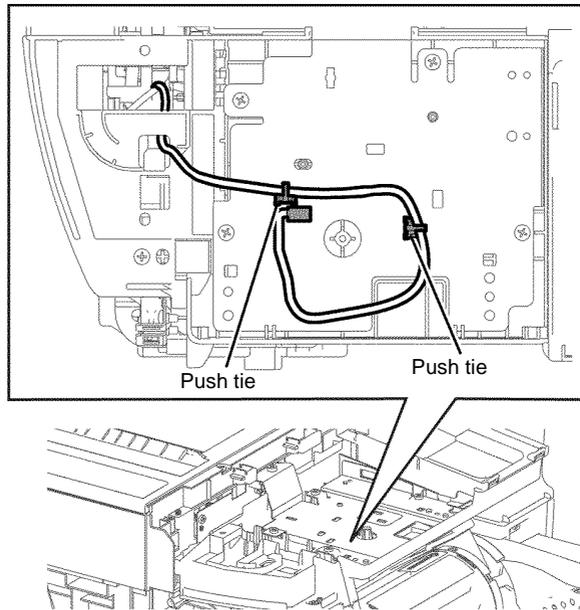

Figure 4 Speaker push ties release
15. Release the two push ties of the UI speaker, Figure 4.